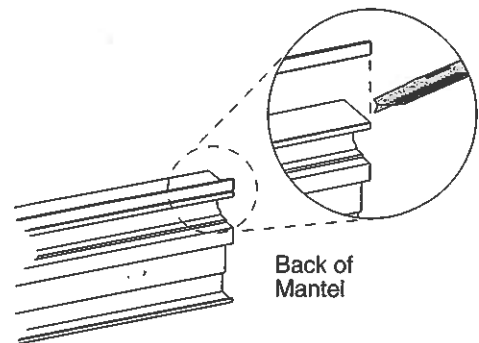

Figure 15
2. Score the groove on the back of the Mantel 3-5 times with a utility knife and snap off the Mantel's top flange (Figure 15).